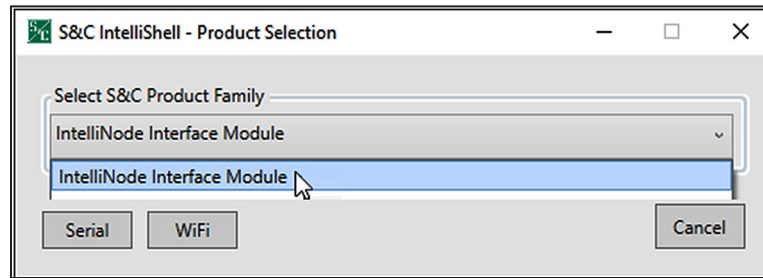

Figure 5. The S&C IntelliShell—Product Selection dialog box.
STEP 3. Select the **IntelliNode Interface Module** option and click on the **Serial** button to make a serial connection, or click on the **Wi-Fi** button to make a Wi-Fi connection. See Figure 5.